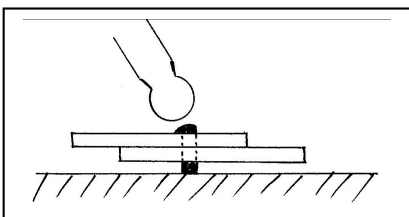

figure1
- 5) Position the piece over a metal block and raise the piece up about 1/2 mm (figure1), in order to maintain the 1/2mm of rivet for the backside.